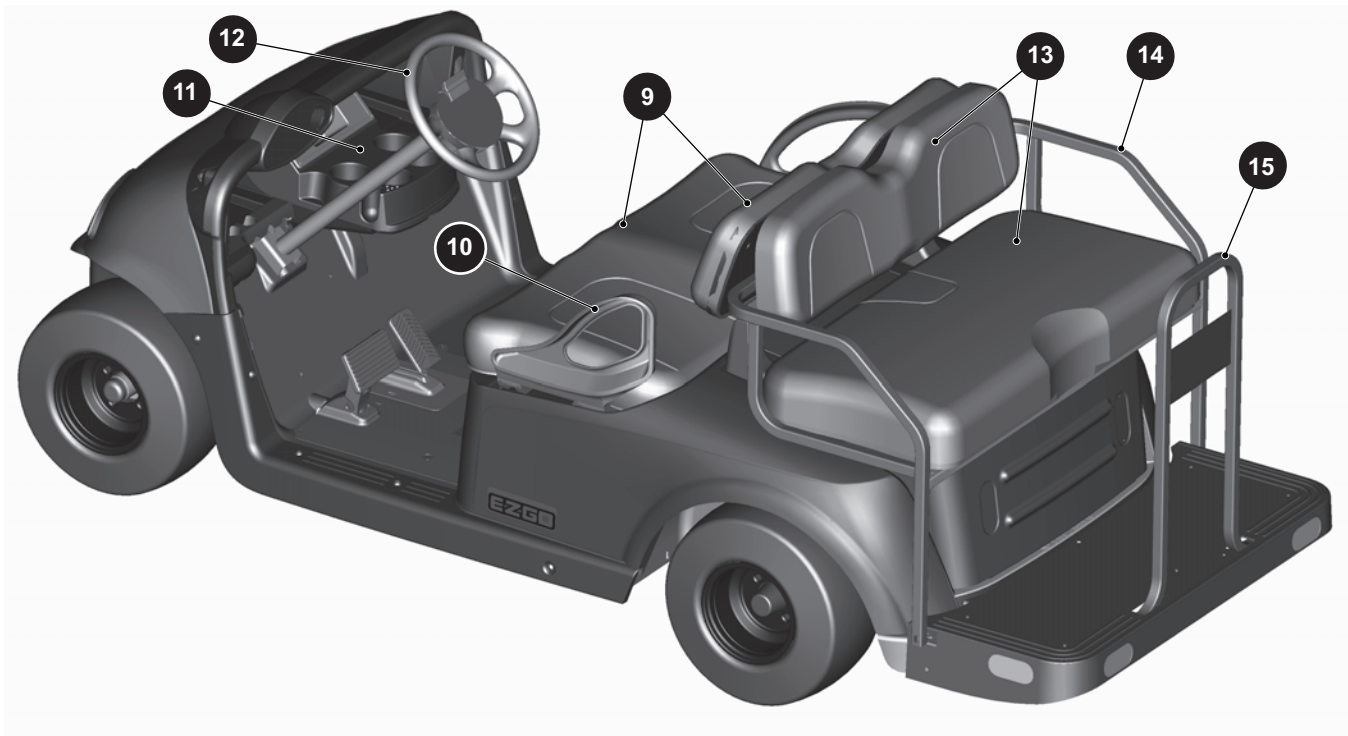

Figure 6 Rear Seating
The front seat (9) is for two people, one person on each side of the seat (Figure 6).
The front hip restraints (10) help people stay in position while the vehicle is in motion (Figure 6).
The vehicle has a cup holder (11) for the benefit of both the driver and passenger (Figure 6).
The steering wheel (12) controls the direction of vehicle travel (Figure 6).
There are rear hand rail (14), one on each side of the rear seat to help passengers stay in position when the vehicle is in motion. The passengers must hold the rear hand rail (14) whenever the vehicle is in motion (Figure 6).
The rear handle (15) is located at the far end of the vehicle in the center of the footrest. The handle helps the passengers stay in position when the vehicle is in motion. The passengers must hold the rear handle (15) when the vehicle is in motion (Figure 6).